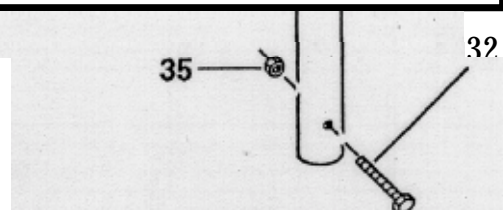

Figure 2
Assemble base assemblies "A" and "B" using 3/8"-16 hardware. See Figure 2.
Install the three base insulator assemblies (with pipe legs attached) on the base assemblies, using 1/4"-20 hardware. See Figure 2.
Install the Three (3) 1 1/4" compression clamps onto the pipe legs and position them near the insulators as shown in Figure 2. Tighten the clamps just enough to hold them in position. Refer to Figure 5 for compression clamp instructions.
Install the 1/4"-20 x 2 1/2" hex head bolts and nuts on the bottom of each base insulator assembly. This bolt will help to anchor each leg in the concrete. See Figure 2.